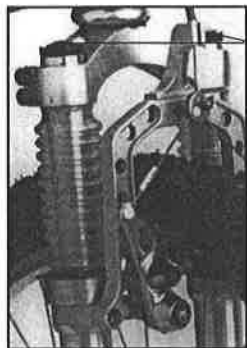

Fig. 1
2. Remove both air valve caps (Fig. 1).